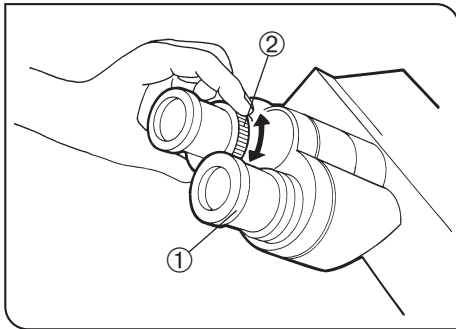

Fig. 39
1. Looking into the right eyepiece with your right eye, turn the top of the eyepiece ① so that the micrometer in the field of view looks sharpest (Fig. 39).
3. Looking into the left eyepiece with your left eye, rotate the diopter adjustment ring ② to bring the specimen into focus.